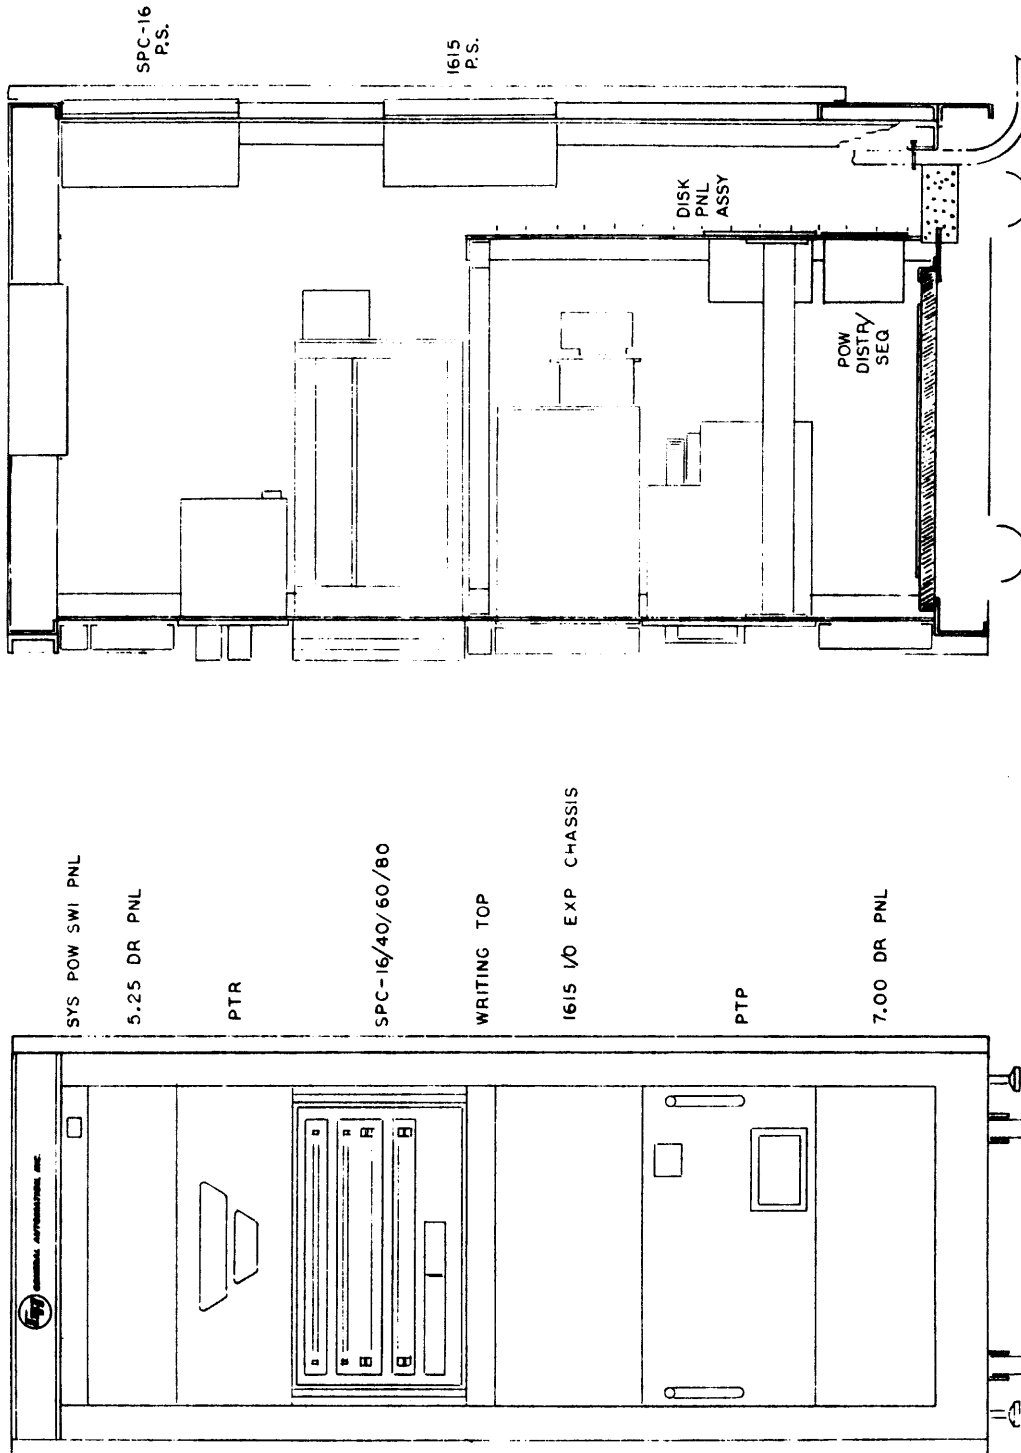

Figure 2-7. 1901 System Enclosure with SPC-16/40/60/80
- o Figure 2-7 shows an SPC-16/40/60/80 mounted with a 1615 I/O Expansion Chassis, a Paper Tape Reader and a Paper Tape Punch.